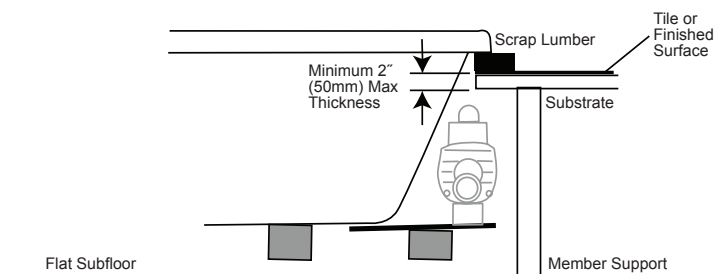

Figure 9 - Drop-In (side view)
- 8** Install the unit, inserting the blower end first, lowering the bathtub into the opening as shown in the illustration (Figure 9).